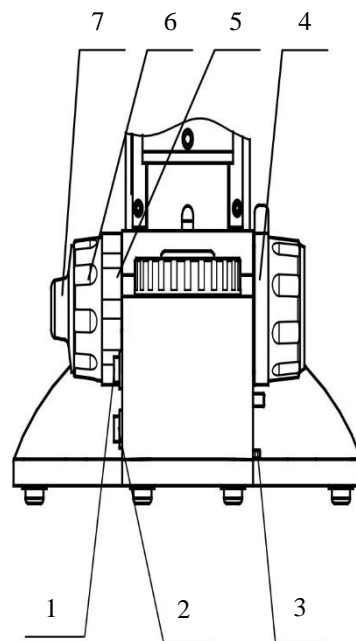

Figure 3
1. Illumination controls, see figure 3
2. Focusing Controls, see figure 3